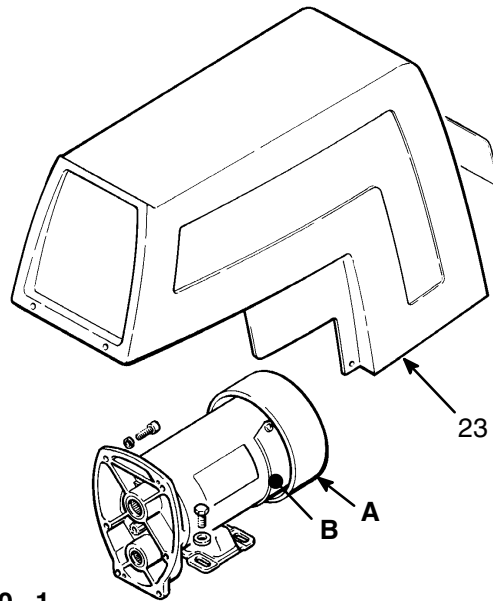

Fig 20-1
Remove the pressure control cover. Remove the motor shield (23). Remove the fan cover (A) and the inspection covers (B). Refer to Fig 20-1.